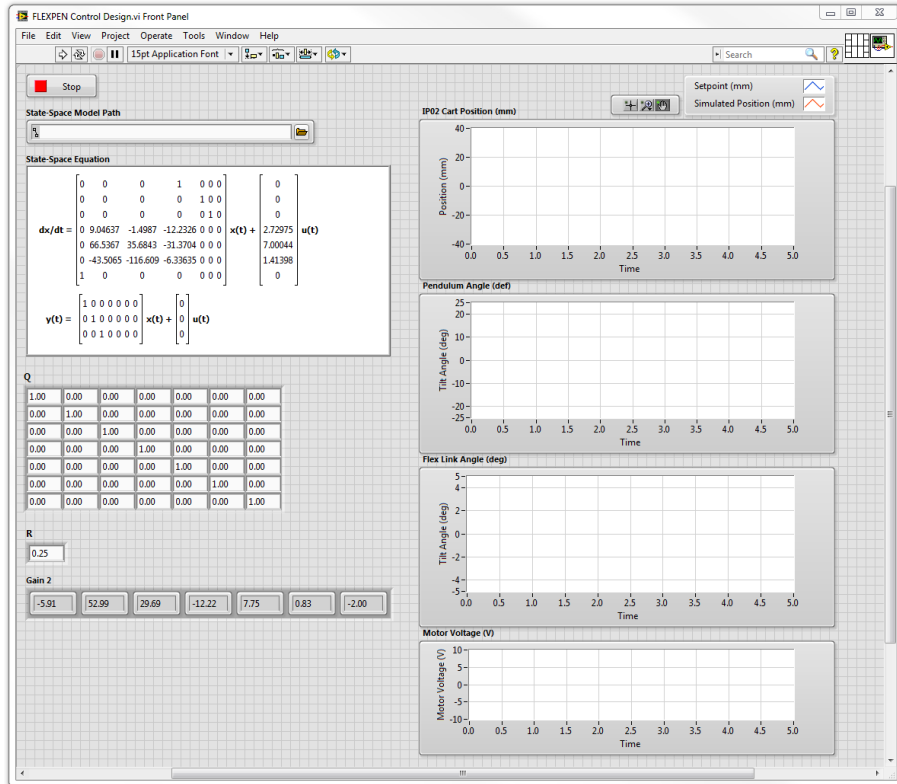

Figure 3.1: VI used to simulate Flexible Pendulum.
In this section we will use the VI shown in Figure 3.1 to simulate the closed-loop control of the Flexible Pendulum system. The system is simulated using the linear model summarized in Section 2.1. The VI uses the state-feedback control described in Section 2.2.4. The feedback gain  $K$  is found using the LQR command from the *Control Design and Simulation Toolkit* (LQR is described briefly in Section 2.2.3). The goal is to make sure the gain used successfully stabilizes the system (i.e., keeps it balanced), and does not saturate the dc motor.
6. Open the *FLEXPEN Control Design* VI, shown in Figure 3.1.